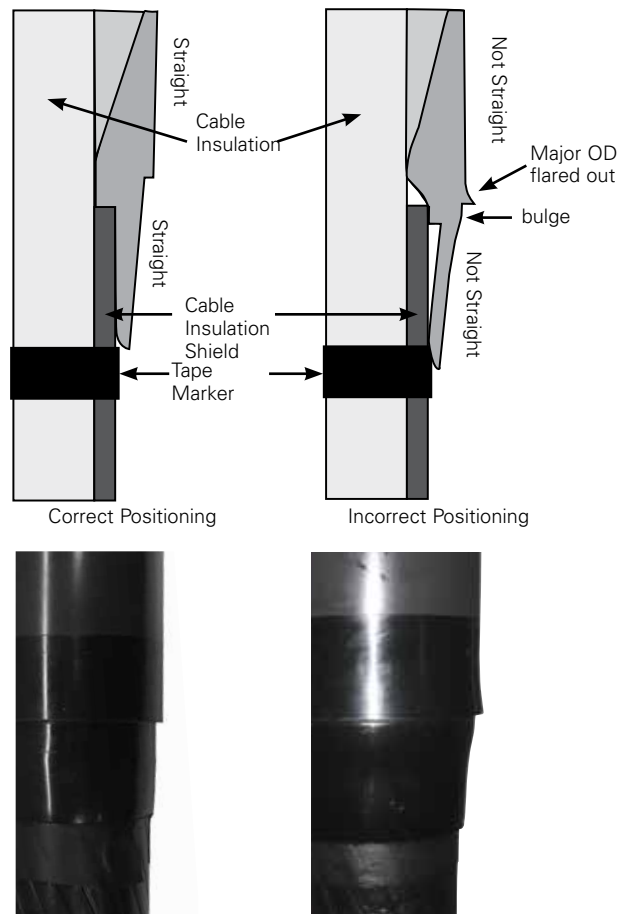

Figure 10. Cross sectional view of cable adapter positioning.
- After sliding the cable adapter into position make sure that no bulge is present (see Figure 10).
Note: The end of the cable adapter must line up with the top edge of the tape marker after T-body assembly. Refer to Figure 10.